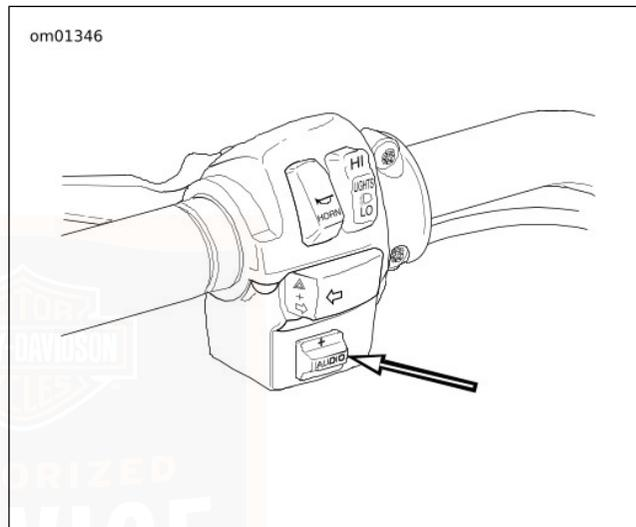

Figure 21. Left Handlebar Control (+ / AUDIO / -)
2. **Adjust Volume:** See Figure 21. Adjust volume with the the **AUDIO** switch (1) on the left hand grip. Push **AUDIO** switch up (+) to raise the volume or down (-) to lower the volume.
3. **Manual Tuning:** Press and hold the **Up Arrow** or **Down Arrow** until the desired radio frequency is displayed in the LCD (8).
See Figure 21. Easy to operate while riding, audio controls are mounted on the left hand switch housing on the left handgrip. The left hand audio control is an **+ / AUDIO / -** switch.
AUDIO: See Figure 21. Press the **AUDIO** switch to access the Audio/Setup menu on the LCD. Press and release **AUDIO** or the press the soft key to toggle to the next displayed function in sequence from Bass, to Treble, to Display, to Volume and then to AVC.